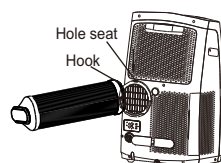

Fig.17
2. Resert the hook of the Exhaust hose into the hole seat of the air outlet and slide down the Exhaust hose along the arrow direction (See Fig.17) for installation.